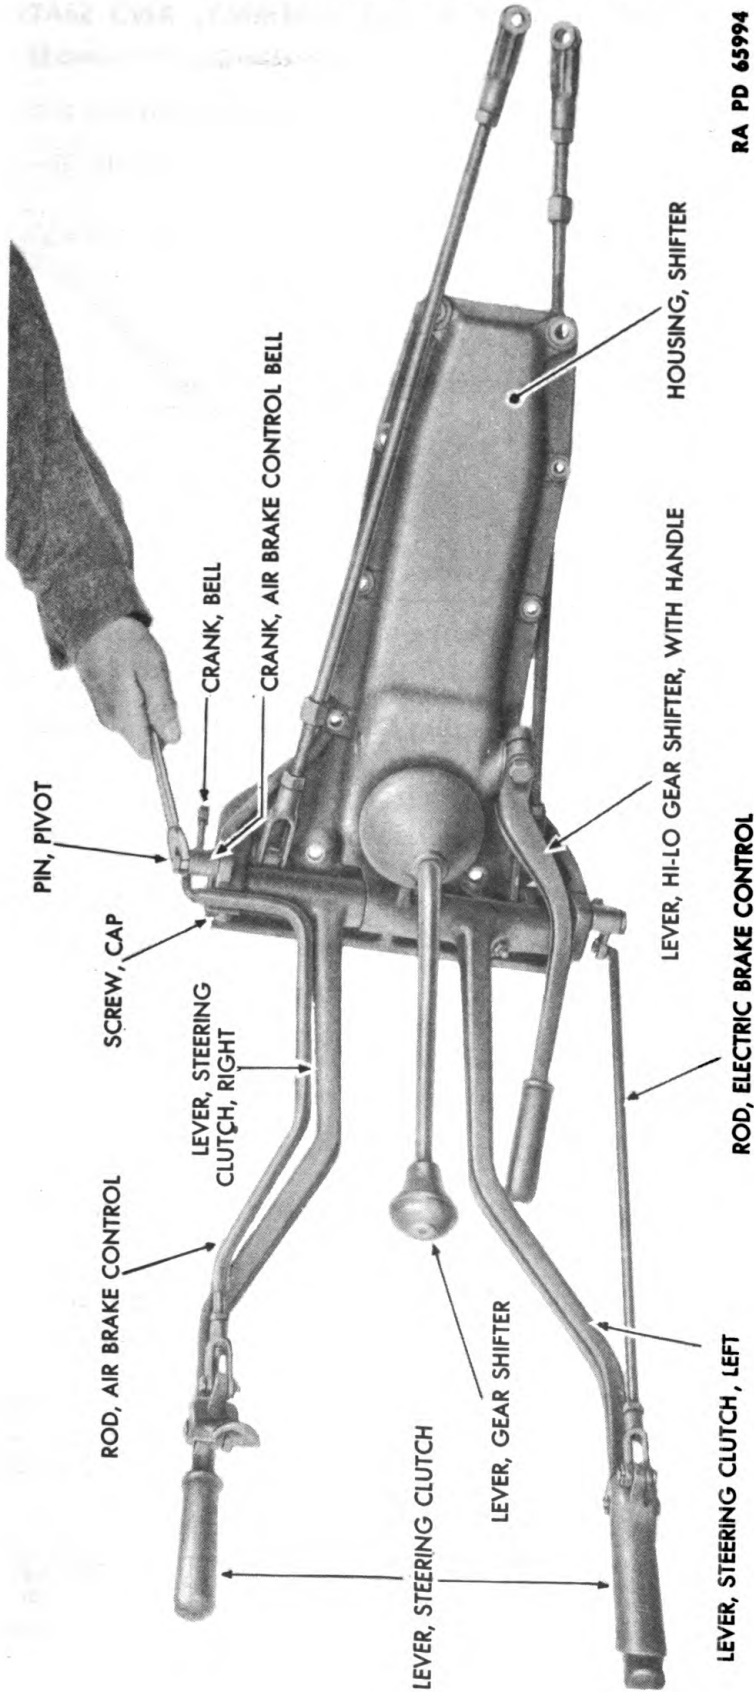

Figure 115 — Steering Clutch Lever Removal
(1) REMOVE STEERING CLUTCH CONTROLS FROM SHIFTER HOUSING (fig. 115).